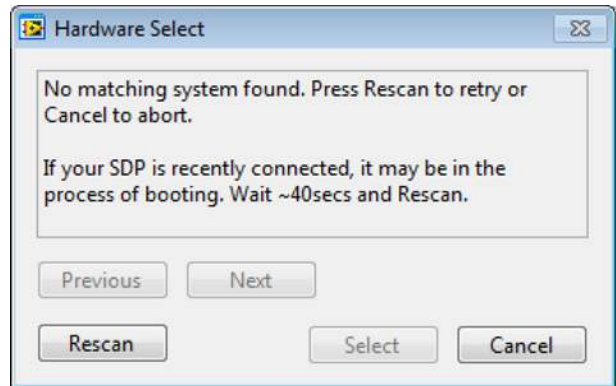

Figure 15. **Connectivity Error Alert**
2. If the evaluation system is not connected to the USB port when the software is launched, a connectivity error displays (see Figure 15). Connect the evaluation board to the USB port of the PC, wait a few seconds, click **Rescan**, and follow the instructions on the screen.